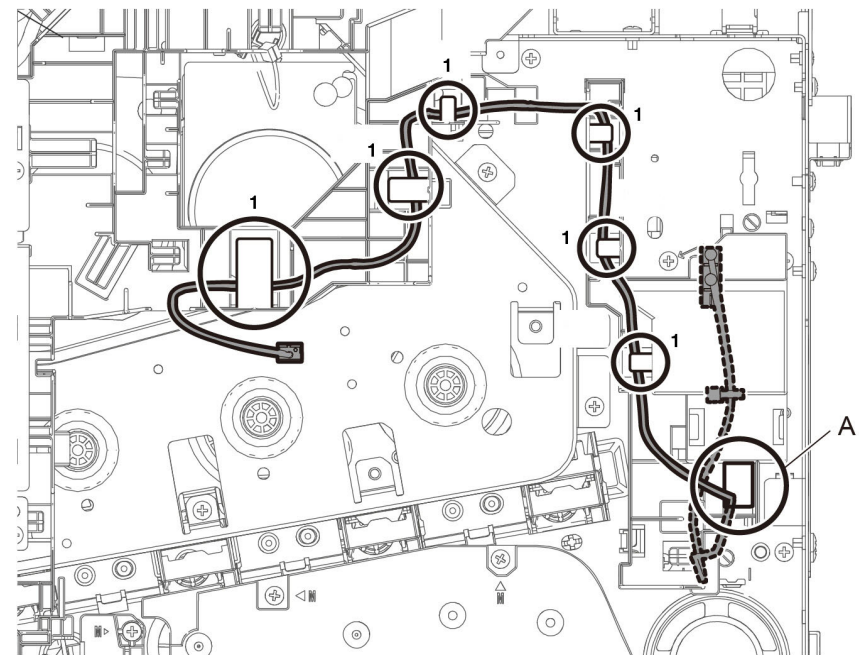

Figure 1 Side interlock harness
3. Remove the side I/L harness assembly, Figure 1:
- a. Release the side I/L harness assembly from the DC harness guide (1) and the duct harness guide (2).
- b. Pull the side I/L harness assembly through hole (A).